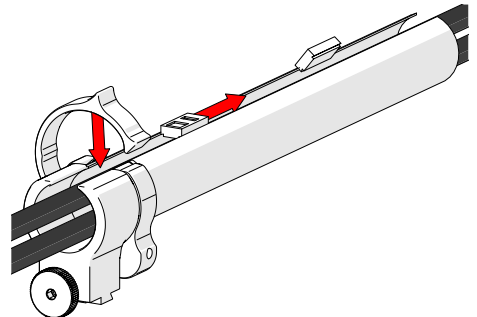

Fig. 78 - Zip up to close
2. Follow the cable placement, zipping the tube closed and closing the cable management cable latch (Fig. 78).